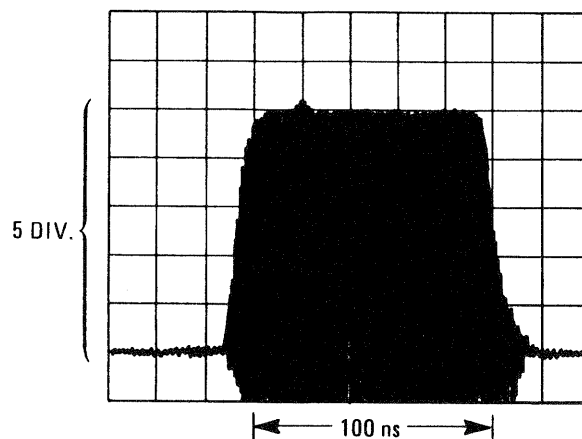

Figure 4-14. Rise Time, Fall Time, Overshoot and Ringing Measurement
7. Adjust the sweep delay on the oscilloscope to center the modulated 70 MHz RF pulse. Adjust the vertical controls for a 5 division peak pulse display. See Figure 4-14.